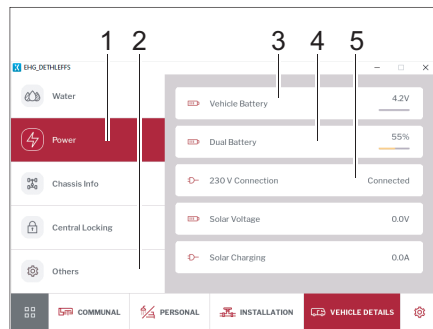

Fig. 269 Power and inside temperature
- Click on the *Power* (Fig. 269,1) button.
The vehicle's battery voltage (Fig. 269,3), the charge status of the body battery in % or charge voltage of the AGM battery in V (Fig. 269,4) and the 230 V supply status (Fig. 269,5) will be displayed.
- Click on the *Other* (Fig. 269,2) button.